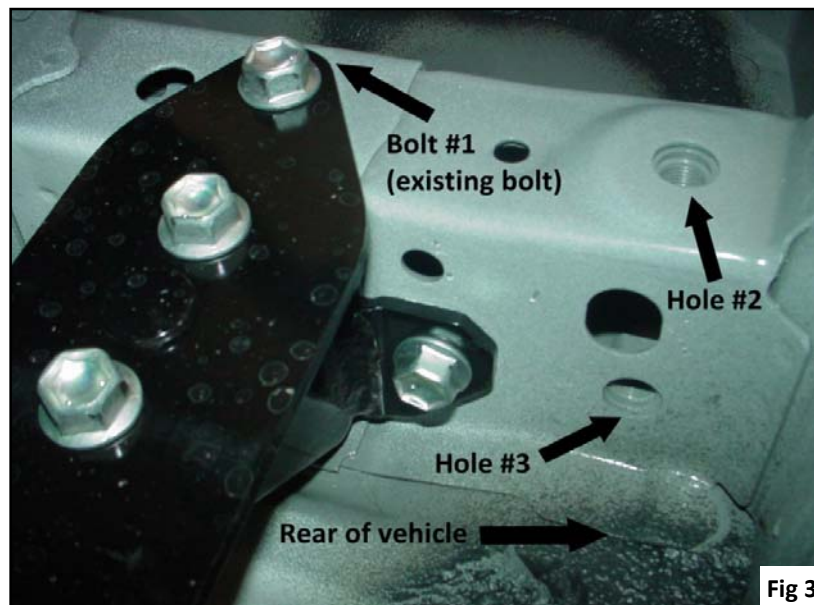

Fig 3
3. The outriggers are secured to vehicle using existing M12 bolt #1 (used to secure black cross member) and 2 x M12 x 40 ZP HT 8.8 bolts, spring & flat washers into holes #2 and #3 (**Fig 3**). To commence installation remove bolt #1.